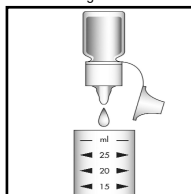

Figure 2
2. Add 4 drops of S-1404 Stabilizer Solution. Fig. 2
3. Add 4 drops of S-1405 Catalyzer Solution (green). Fig. 2